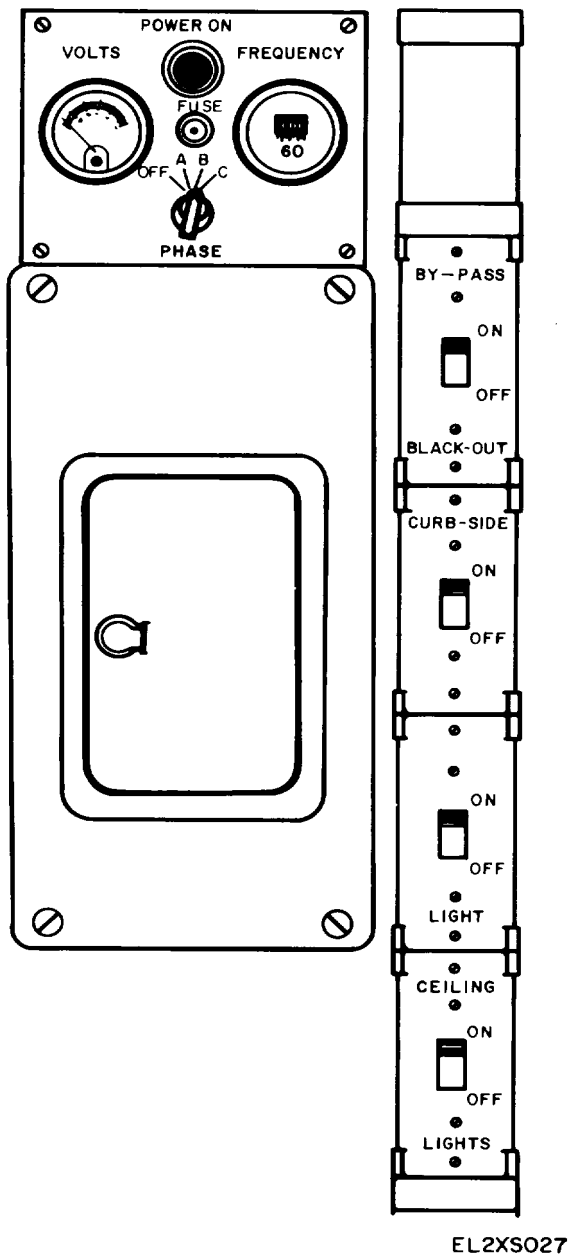

Figure 3-3. POWER DISTRIBUTION PANEL for V-460/MYK-8(V)
c. Figure 3-3 shows the POWER DISTRIBUTION PANEL for V-460/MYK-8(V).